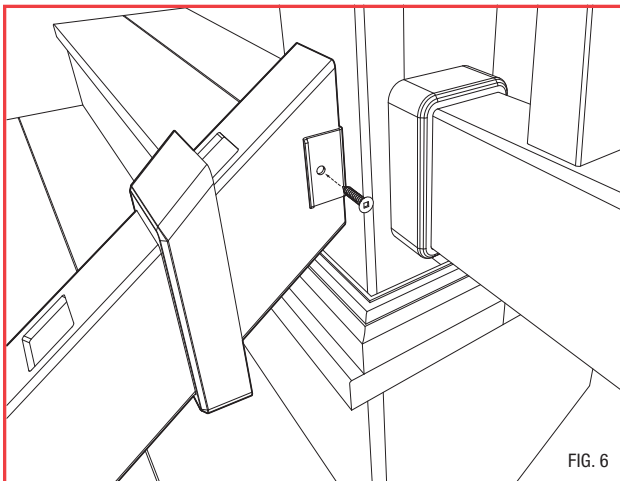

FIG. 6
9. Position the rail between the bottom rail metal brackets. (Fig. 6) Level the rail at the desired angle and secure in place on both sides of the metal brackets using two of the 1" screws provided. Snap the bracket covers over the metal brackets.